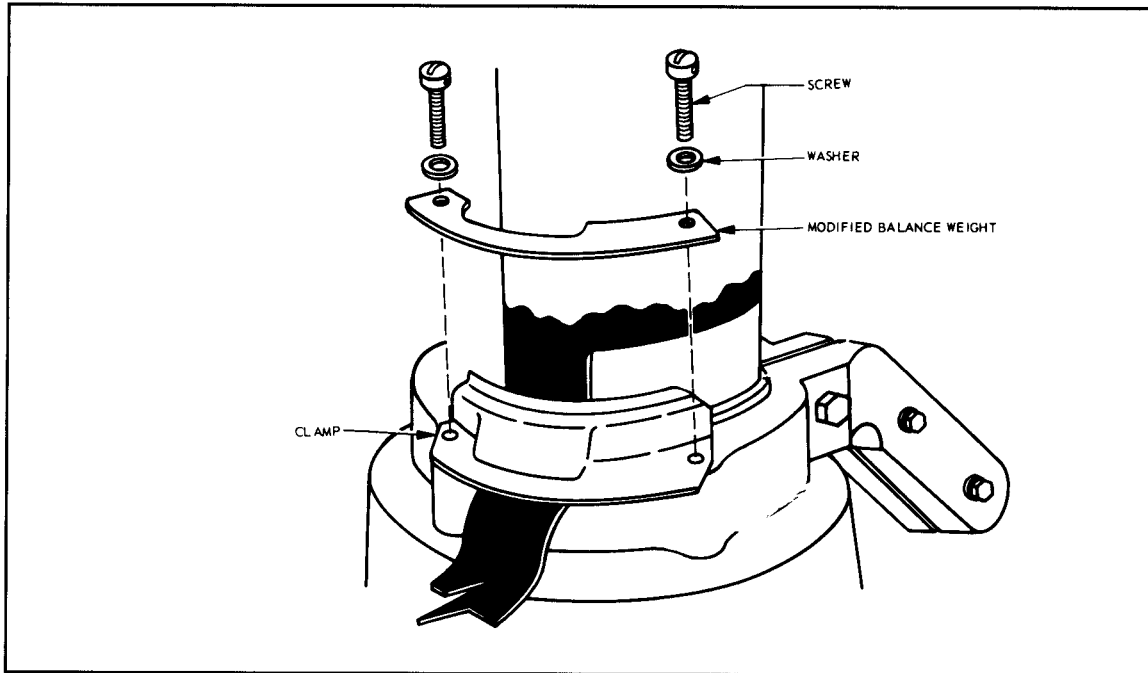
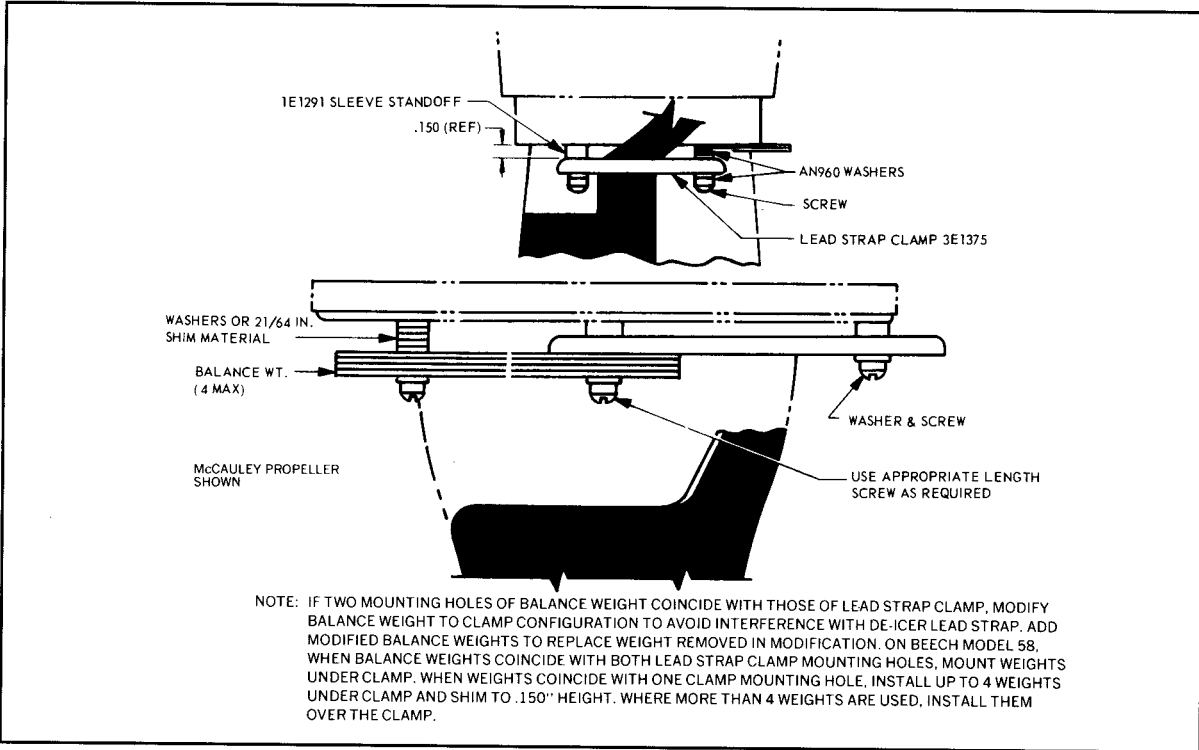

Figure 8 - Modified Balance Weight/Lead Strap Clamp (P/N 4E1725) Installation
Figure 12 - Lead Strap Clamp (P/N 3E1375) Installation
3. If mounting positions of balance weight and lead strap clamp coincide (**Figure 8, page 8 & Figure 12, page 10**), use longer screws for the extra thickness. Make sure there is thread engagement of 2-3 threads beyond nut and that screws do not bottom out or contact spinner dome in any pitch position.